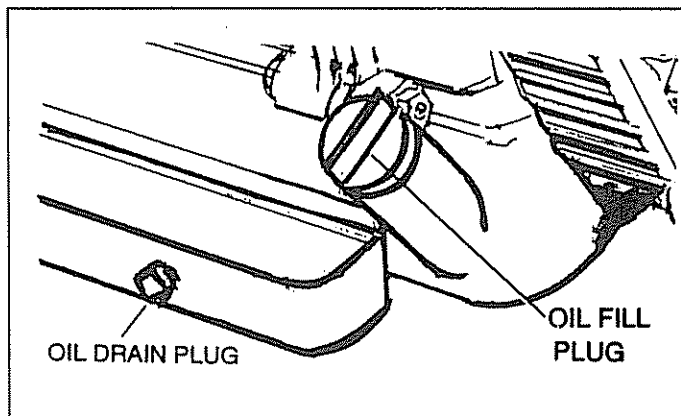

FIG. 23
- Clean area around oil drain plug, remove plug and drain oil completely into a suitable container (Fig. 23).